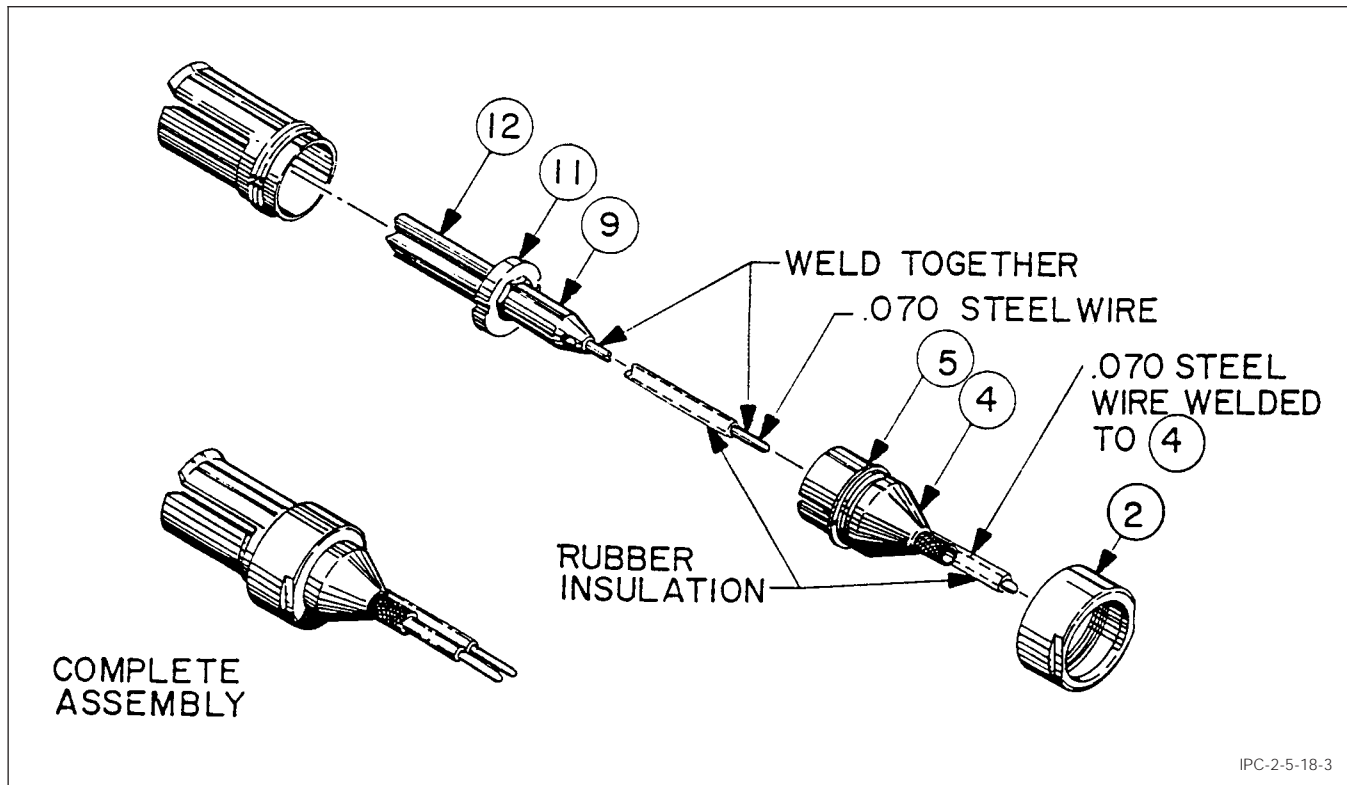

Figure 1 Cable Connection Device
**4.2** Two standard cable connection devices to terminate each end of the test cable, which should match Figure 1. It is made from a General Radio cable connector type 874-C62A.